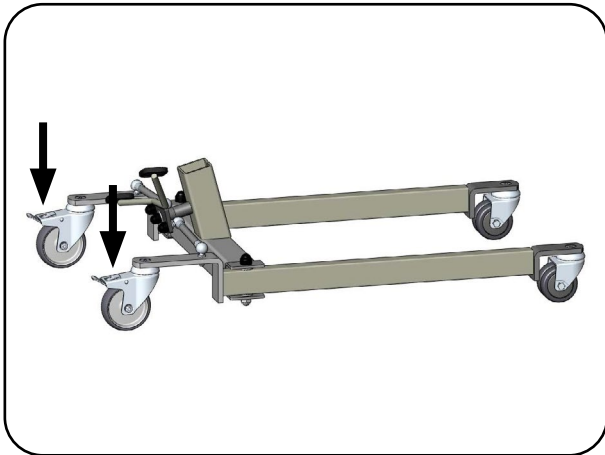

Fig. 6.2.01 – Chassis with braked castors
2. Place the chassis with the castors on the floor (Fig. 6.2.01).
3. Brake the two rear castors on the operator side by activating the foot lever (Fig. 6.2.01); see chapter on Operation, section **Castors**.
15. Release the brakes on the two rear castors on the operator side by activating the foot lever (Fig. 6.2.01); see chapter on Operation, section **Castors**.